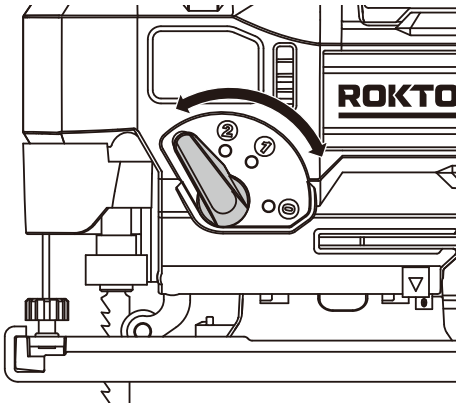

Figure 6
1. PENDULUM ACTION CONTROL ADJUSTMENT (SEE FIG. 6)